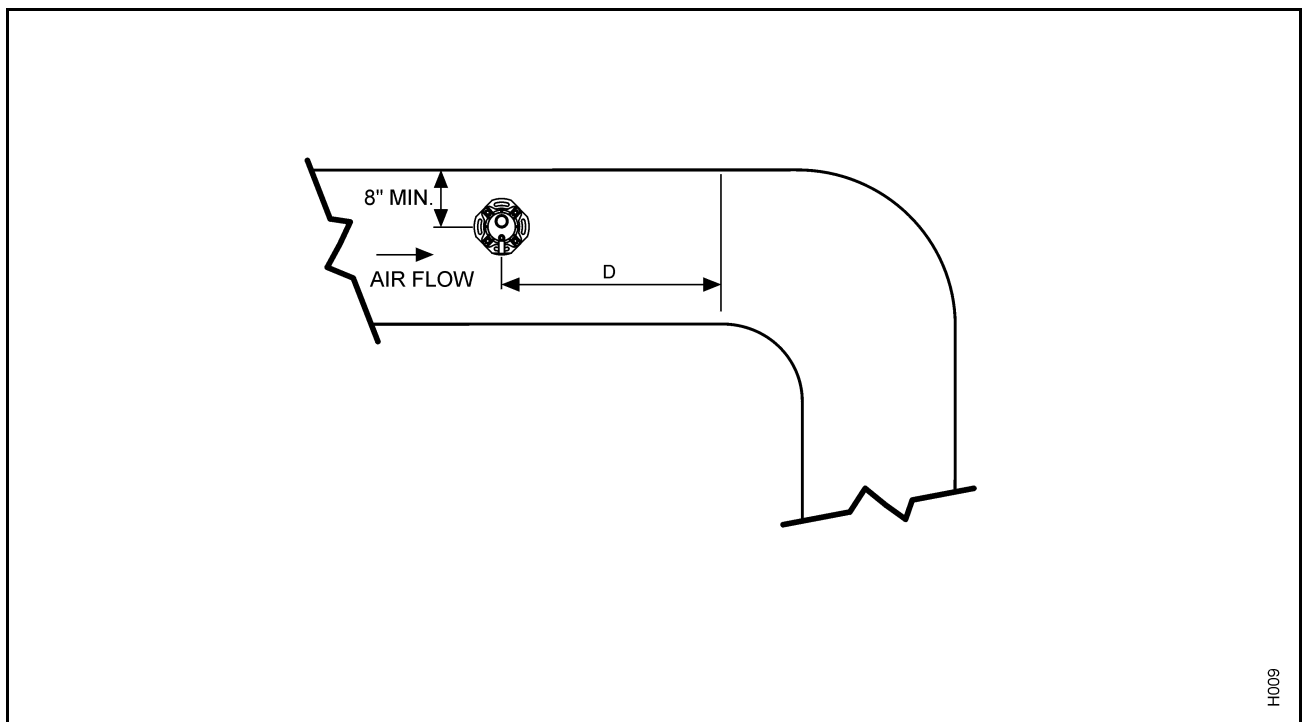

Figure 3. Steam Distributor Location
- (1) This manual will help in the design of a steam distribution system to provide the optimum performance from the humidifier and absorption of steam within the duct system.
- (2) Experience has shown that absorption of steam is affected primarily by the psychrometric conditions of the air based on how much residual capacity at a given air volume and temperature exist to hold the moisture being introduced.
- (3) To properly introduce steam into an air stream, five variables must be known:
- (4) As a guide, Table 8 shows how each variable affects the absorption distance.
- (5) Table 9 shows examples of typical absorption distances in air handling systems.
- (6) Referring to Figure 3, 'D' can vary between 1 to 20 feet depending on the airflow's:
- (a) Velocity (V)
- (b) Temperature (T)
- (c) Humidity (H)
- (7) When (V) is 500 fpm, (T) is high (90 to 130°F) and (H) is low (10% to 30% rh) the 'D' will be 1 to 2 feet. As the (H) goes up 'D' becomes longer. Similarly, as (T) goes down, 'D' goes up. High velocity also increases 'D' by moving the steam further down stream before it can mix. Multiple distributors will shorten the steam absorption distance.